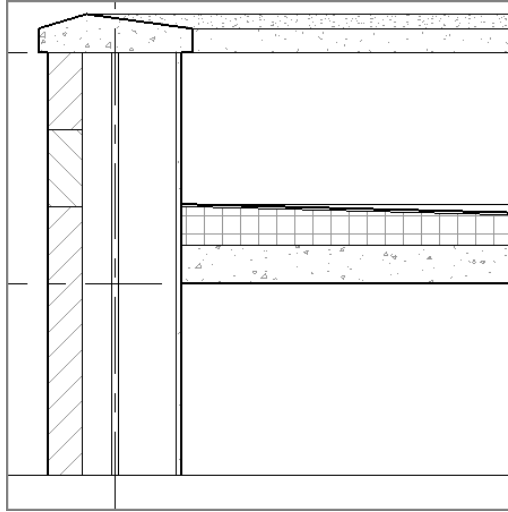

FIGURE 12.2: Your section's outline should begin looking a lot better.
11. Click OK, and you'll see the change to your outline (see Figure 12.2).